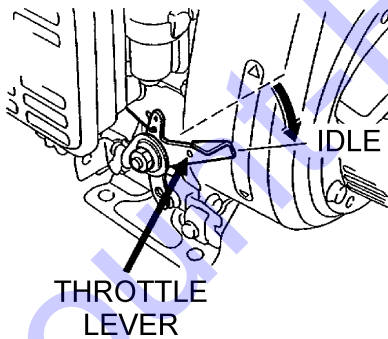

Figure 21. Throttle Lever (Idle Position)
2. Place the trowel's **throttle lever** (Figure 21) to the "IDLE" position.